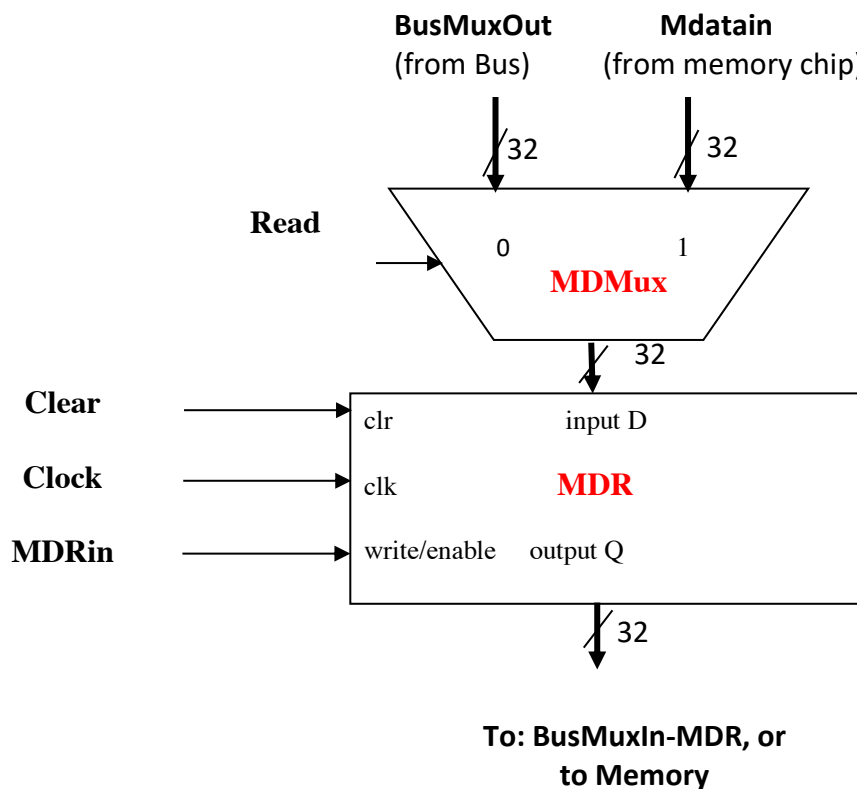

Figure 4: The MDR unit
Memory Data Register: The *Memory Data Register (MDR)* is different from the other registers in the sense that it has two input sources and two output sources. Figure 4 presents how *MDR* is connected to the memory bus, and to the internal bus. The inputs to the *MDR* comes from the memory unit (**Mdatain**) or from the Bus (**BusMuxOut**). Data is stored in the *MDR* using the synchronous *Clock* signal and the *MDRin* control signal. The *MDR* contents can be written into the memory or drive the Bus.
3. Design the MDR register (Figure 4) and connect it to the BUS. Leave the rest of the Memory Subsystem (connection to the memory module) for Phase 2.